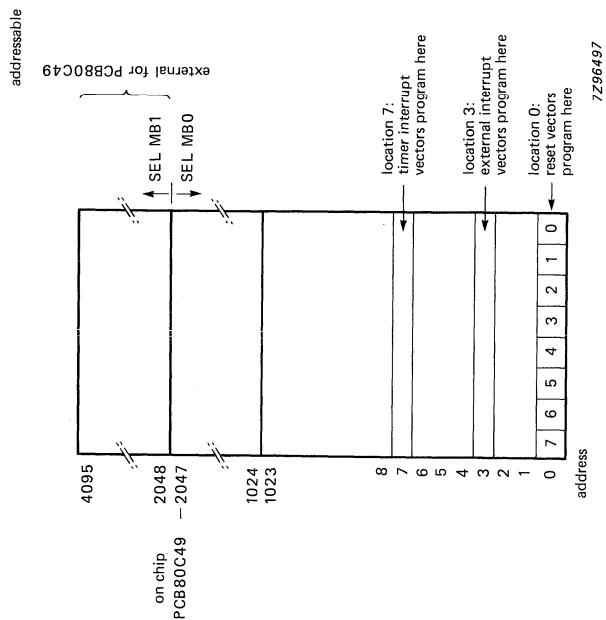

Fig. 3 Program memory map.
**FUNCTIONAL DESCRIPTION****Program memory** (see Fig. 3)